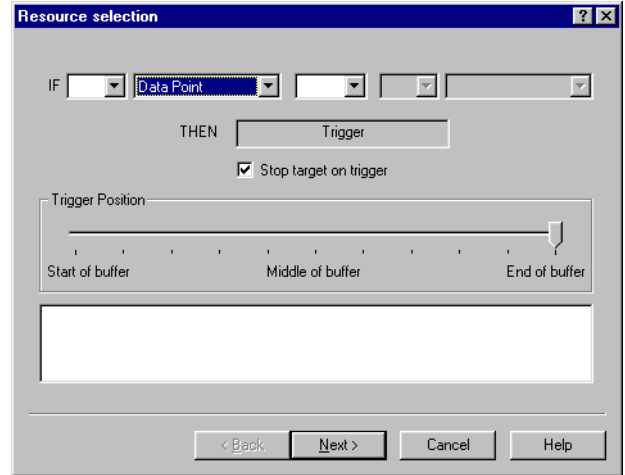

Figure 8-10 Resource selection for Trigger
1. Double-click **Trigger** in the Actions list to define a rule. The Trigger Resource selection dialog box shown in Figure 8-10 is displayed.